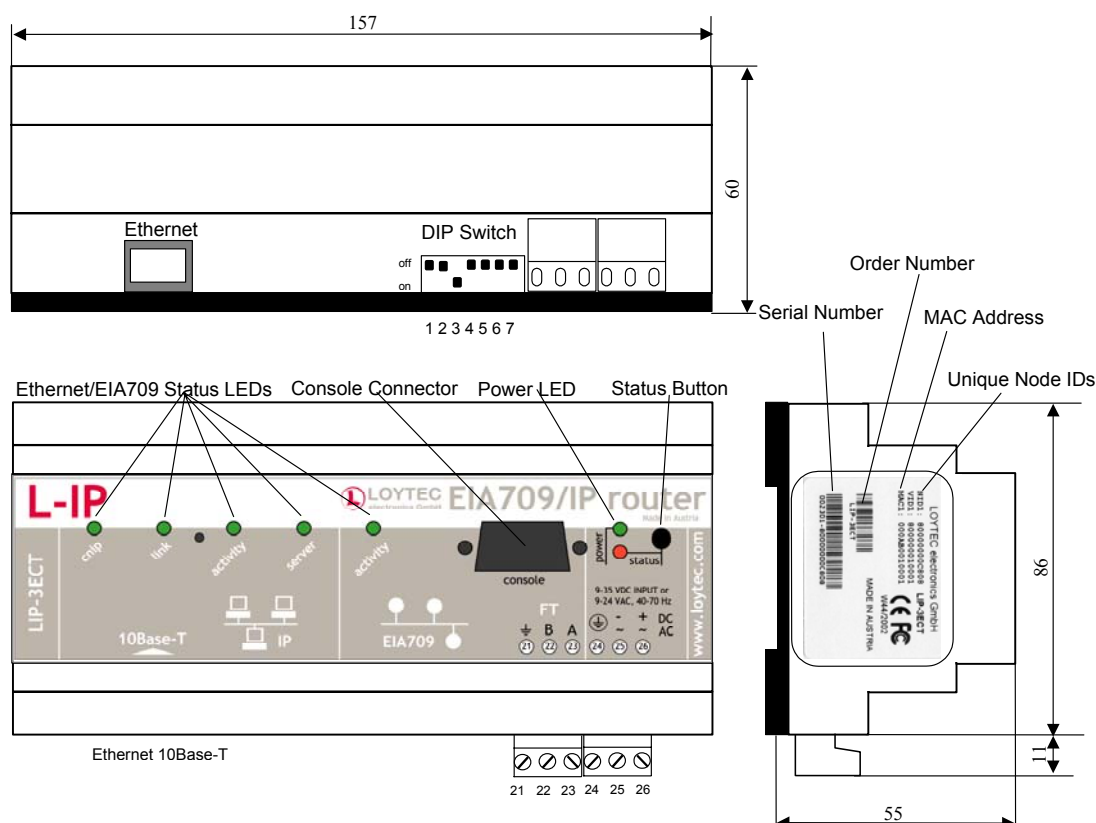
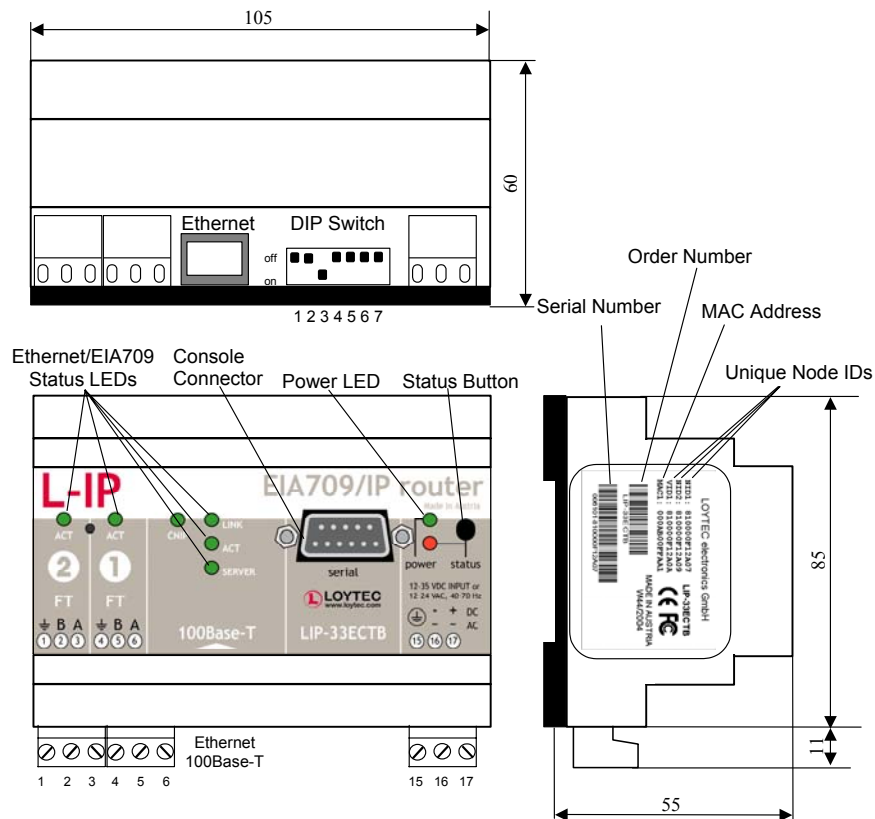

Figure 14: L-IP enclosure (dimensions in mm)
Figure 15: Small multi-port L-IP enclosure (dimensions in mm)
If using LonMaker for Windows the resulting drawing should look like shown in Figure 15. Furthermore, the PRIM LED on one of the two L-IP Redundant devices should be green and should be off on the other one.
The L-IP enclosure is 9 TE (1 TE = 17.5 mm) wide for DIN rail mounting, following DIN 43 880 (see Figure 14).
The small multi-port L-IP(B) enclosure is 6 TE (1 TE = 17.5 mm) wide for DIN rail mounting, following DIN 43 880 (see Figure 15).
The product label on the side of the L-IP contains the following information (see Figure 14 and Figure 15):
The L-IP is equipped with a red status LED (see Figure 14). This LED is normally off.
The EIA-709 port on the L-IP has a three color LED (green, red and orange, see Figure 14). Table 1 shows different LED patterns of the port and their meaning.
The L-IP is equipped with a status button (see Figure 14). When pressing the status button shortly during normal operation of the L-IP it sends a "Service Pin Message" on both network ports. Note that every L-IP port has its own unique node ID ("Neuron ID"). As alternative to pressing the status button a service pin message can be sent via the web interface (see Section 5.2).